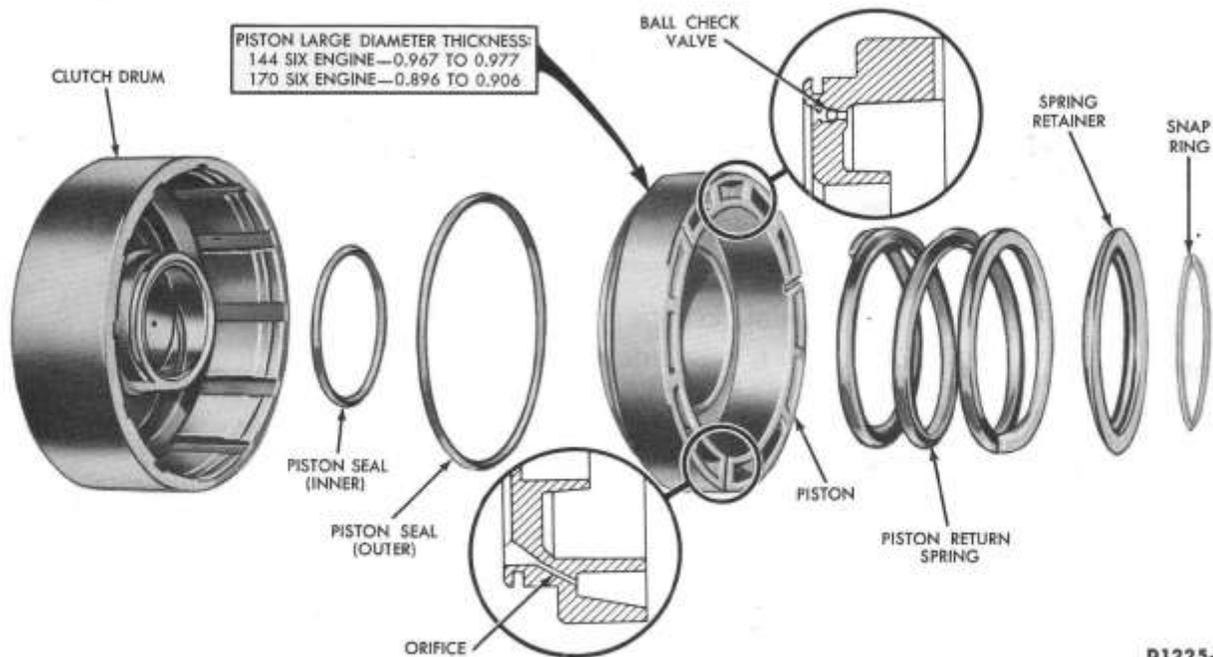

FIG. 13—Clutch Drum and Piston
5. Remove the piston outer seal from the piston and the piston inner seal from the drum (Fig. 13).
8. Inspect the clutch piston ball check valve for free movement and proper seating (Fig. 13). Make sure the orifice in the clutch piston is open.
10. Install a new piston inner seal in the clutch drum (Fig. 13). Install a new outer seal on the clutch piston. Lubricate the piston seals with automatic transmission fluid, and install the piston in the clutch drum.